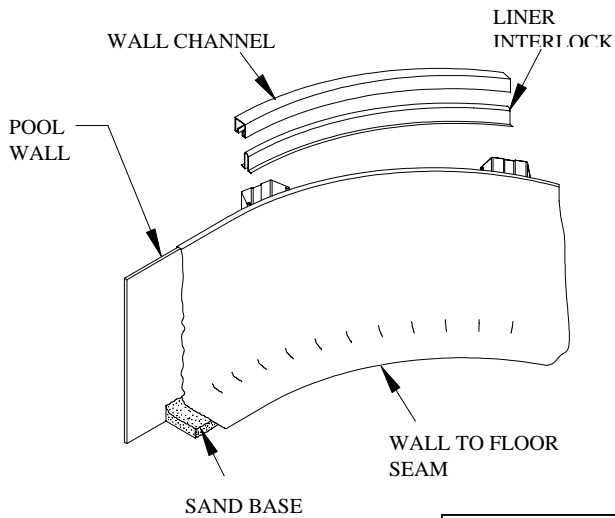

FIGURE 8A
Step 8: See Figure 8A and Detail 8A. Place the liner over the edge of the wall. Make sure the overlap is equal around the outside of the pool wall. Cut the liner interlock into 2" pieces and center the pieces of the liner interlock over the wall at each upright. Place the bead receiver or wall channel over the wall edge as shown to secure the liner in place..